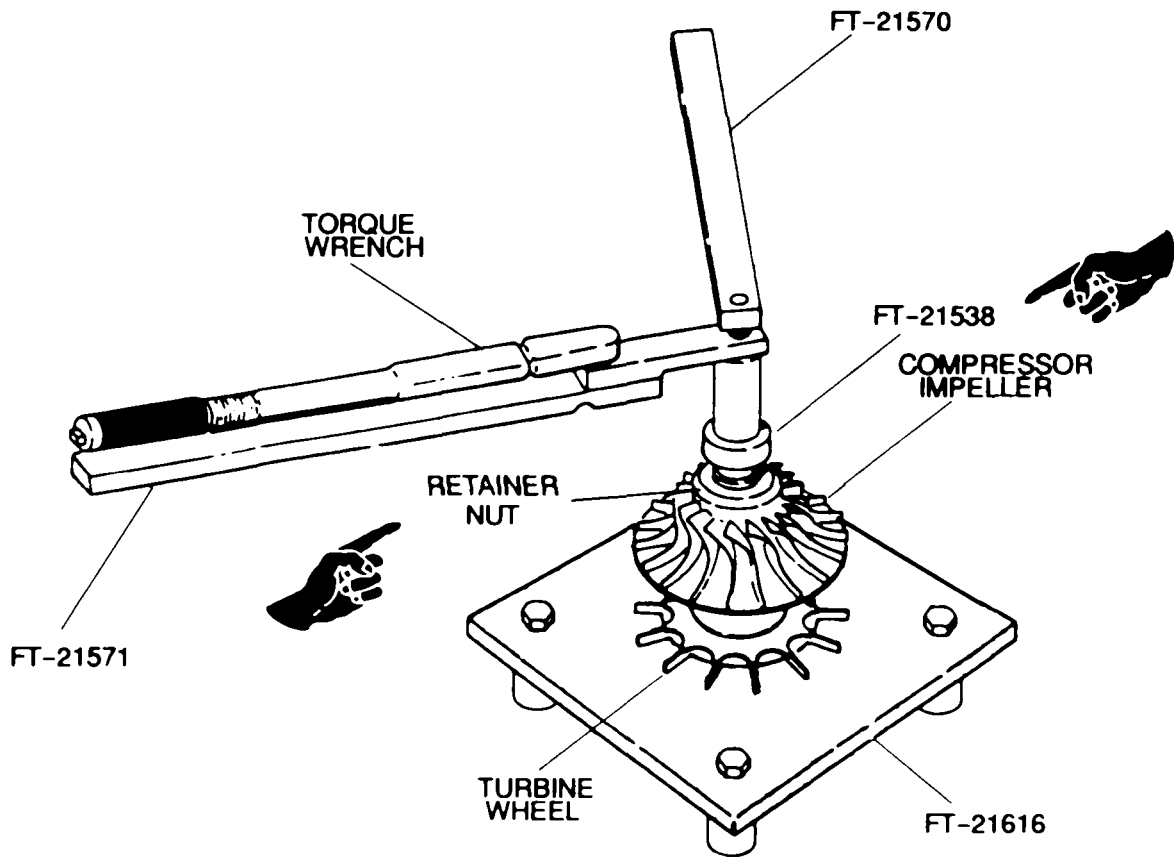

Figure 8-11. Removing/Installing Retainer Nut Using Fabricated Tools FT-21538, FT-21570, and FT-21571
(2) Place turbine wheel (20) In fabricated tool (FT-21616, Figure 8-11)
(3) Heat labyrinth seal (19) and dummy bearing fabricated tool (FT-21538, Figure 8-11) to 250-350° F (121 1-176 60 C), approximately 20-30 minutes
Second dummy bearing fabricated tool, (FT-21538, Figure 8-11) is used in place of bearing (18, Figure 8-6) in this procedure.
(7) Coat dummy bearing fabricated tool, (FT-21538, , Figure 8-11) with turbine oil and Install without heat.
(8) Put turbine oil under retainer nut (15, Figure 8-6) Using fabricated tools (FT-21570, FT-21571, Figure 8-11) and torque wrench, torque retainer nut (15, Figure 8-6) to 300 inch pounds (33 90 Nm) Back off and re-torque to 50 Inch pounds (5 65 Nm)
(10) Using fabricated tools (FT-21570 and FT-21571, Figure 8-11) but without torque wrench, tighten retainer nut Remeasure shaft length as described In step (9), above Repeat procedure until 0 007 to 0 009 inch stretch has be achieved